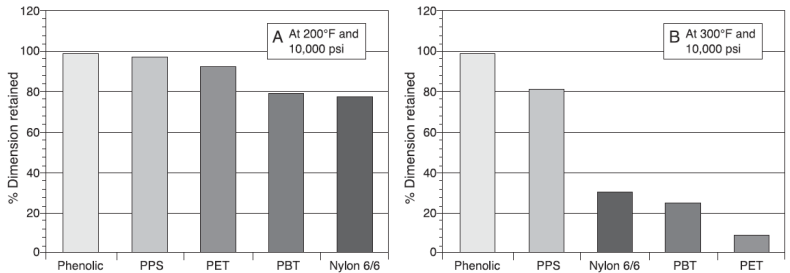

Figure 5: Compression Creep vs. Polymer Type
Figure 5 (ref 4) compares retention of dimensions (compressive strain) for compressive creep of 1140L4 PPS and a phenolic thermoset at two different temperatures (93°C & 150°C). Thermoplastic composites